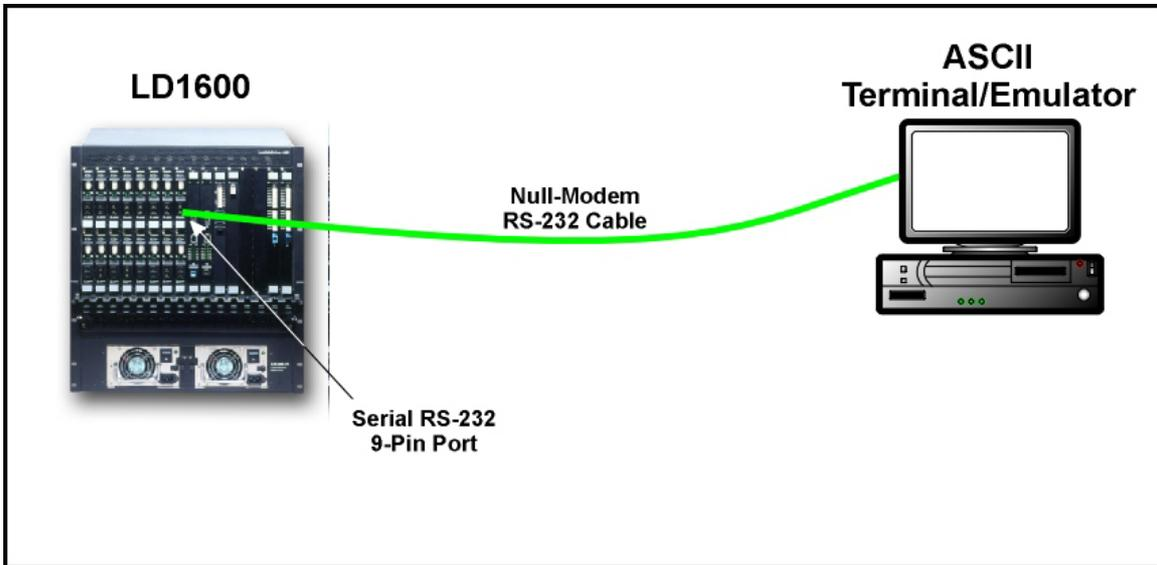

Figure 76: ASCII Terminal/Emulator Connection to LD1600 *Directly*
- **Directly** – as shown in *Figure 76*.